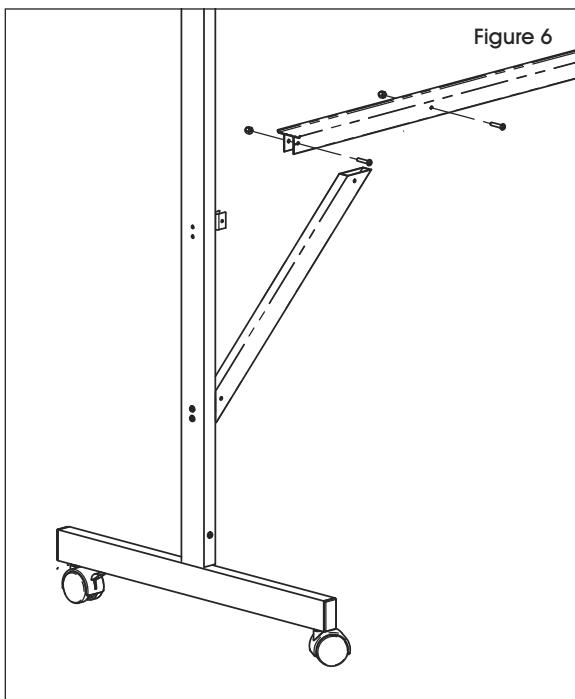

Figure 6
8. Attach the marker tray to the leg assemblies by setting the marker tray on top of the large U-brackets and the braces. Align the holes and install one 1" screw and one acorn nut through each of the four holes. (See Figure 6)